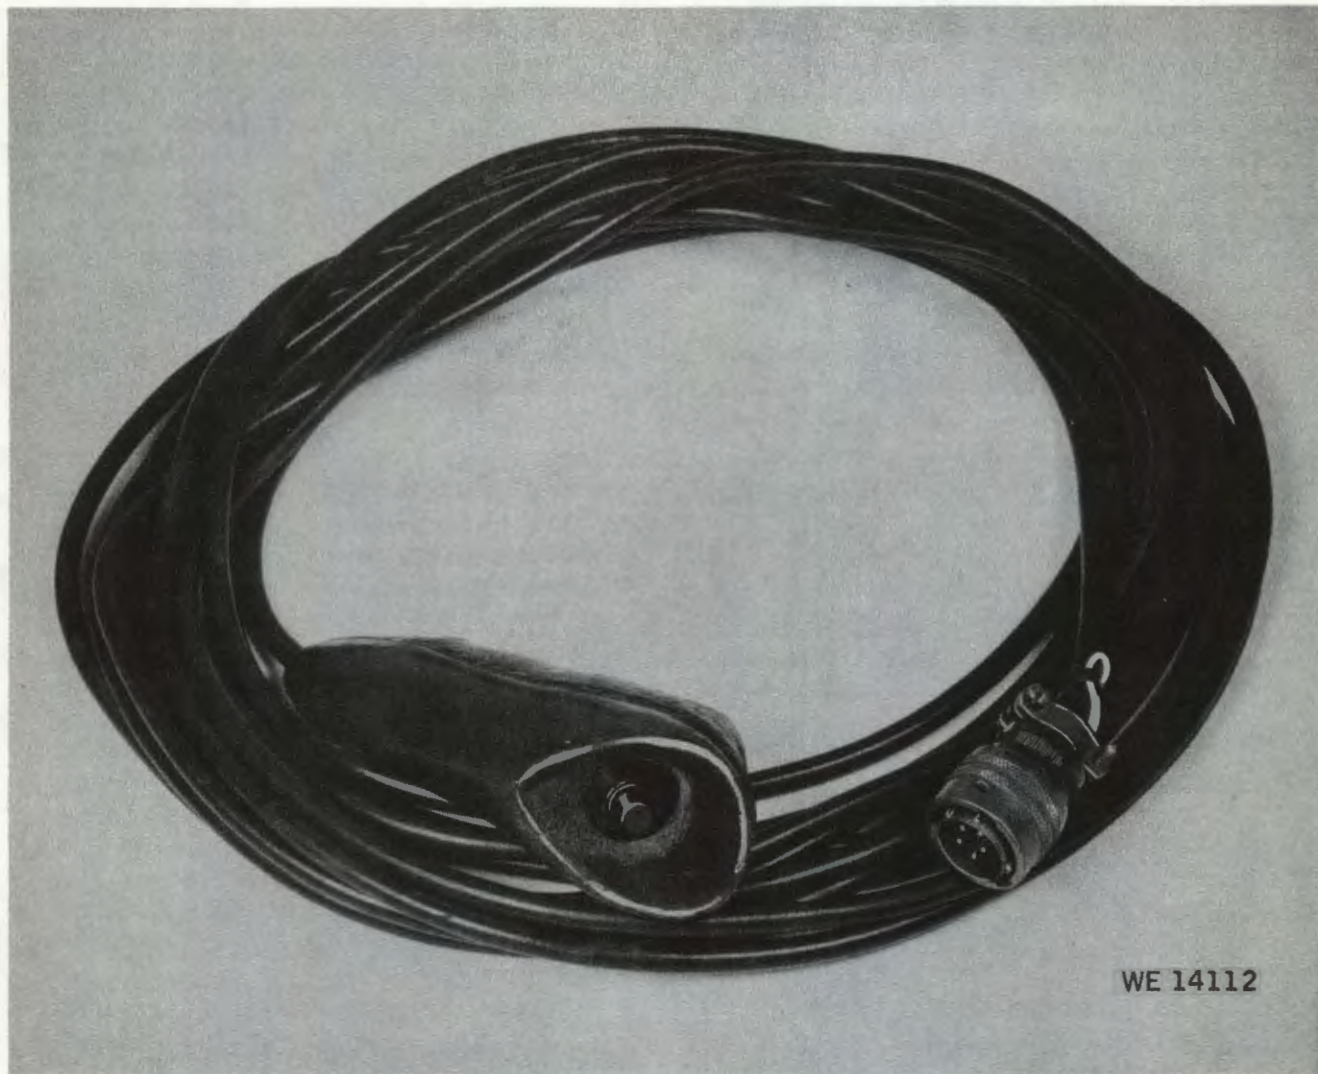

Figure 2-84. Arm-safe switch.
*f. Arm-Safe Switch.* The arm-safe switch (fig 2-84) enables an external operator to control the firing of the cannon from a remote location. The arm-safe switch replaces the arming connector on jack J6 of the distribution box. The arm-safe switch cable is 63 feet long and the switch must be held depressed before the cannon can be fired. Perform the before-and after-operation checks listed in table 4-1.